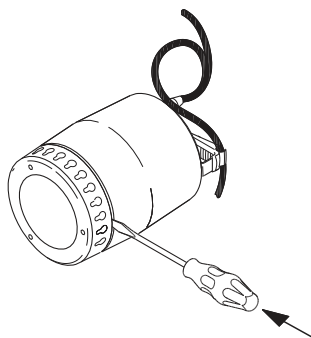

Fig. 11 How to remove the inlet strainer
3. Carefully loosen the inlet strainer by inserting a screwdriver in the recess between the pump sleeve and the strainer. Use the screwdriver to push apart the outer casing and the strainer. Repeat the procedure, working around the pump, until the strainer is free and can be removed. See fig. 11.